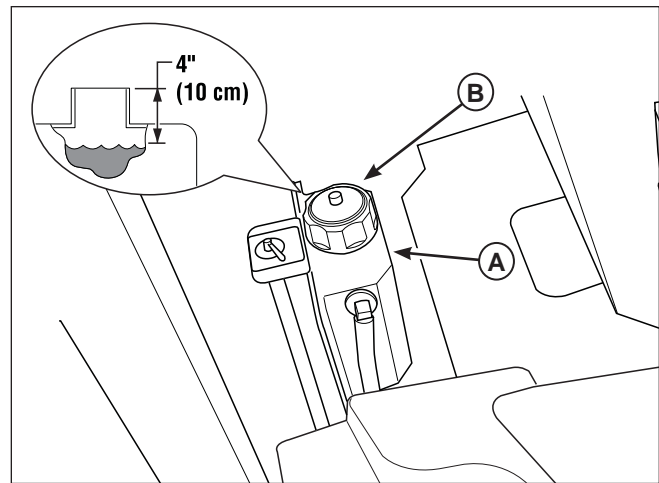

Figure 32. Checking Hydraulic Oil Level
2. Unscrew the reservoir cap (**B, Figure 32**).